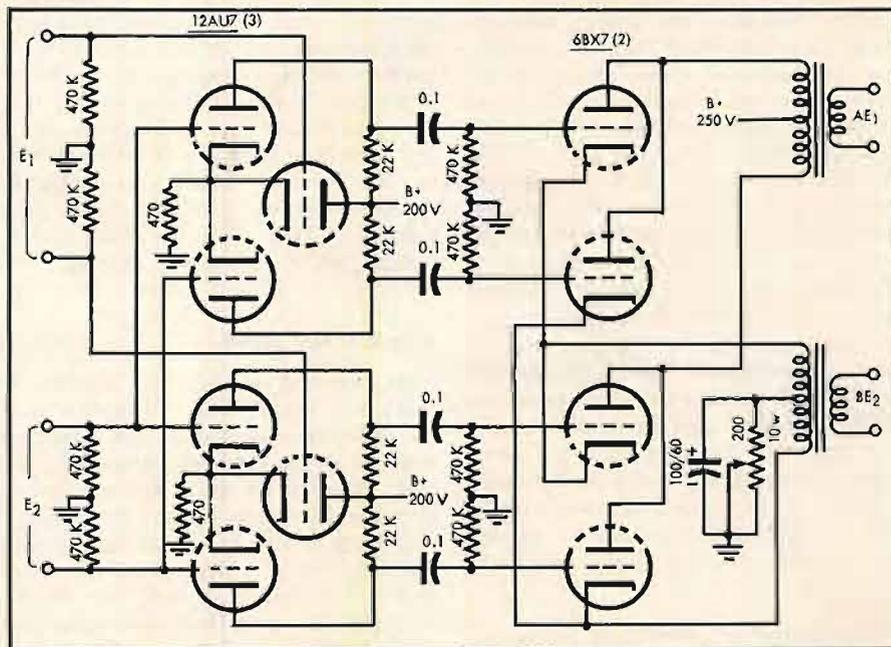

Fig. 5. Complete Bi-Ortho output and driver stage schematic.
Fig. 5. Excursion of direct radiator speaker as a function of  $Q$ . (A) closed box, infinite baffle, or free air operation assumed, and (B), in vented enclosure.
is shown in (A) of Fig. 5.
(A) in Fig. 5 also shows that the excursion gets quite high in the region of resonance and below.